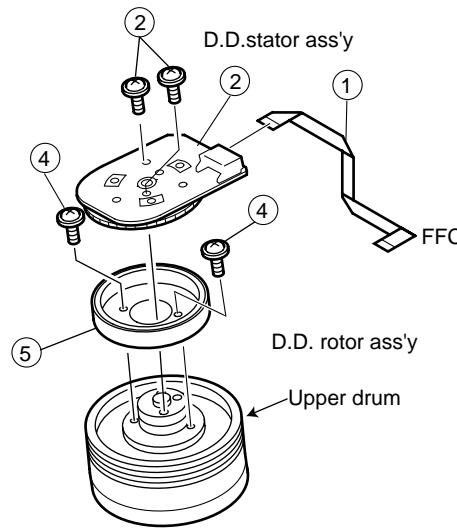

Figure 4-33.
Move the A/C head with the X value adjustment gear driver (JiGDRiVER-6) by the method shown in Figure 4-33, and adjust the A/C head so as to get the maximum ATR signal waveform. (Note: When the A/C head is adjusted, adjust so that the maximum ATR signal waveform is obtained nearest the position of initial setting made in 4-15.)
- ③ Move the A/C head with the X value adjustment gear driver by the method shown in Figure 4-33, and adjust the A/C head so as to get the maximum ATR signal waveform. (Note: At this time adjust so as to get the maximum ATR signal waveform nearest the A/C head position which has been set in case of X value rough adjustment as stated in 4-17, 3-②.)
- ④ Adjust the playback switching point (Refer to the electric adjustment method.)
- ⑤ Playback the self-picture-recorded tape, and check the flatness of ATR signal waveform and sound.